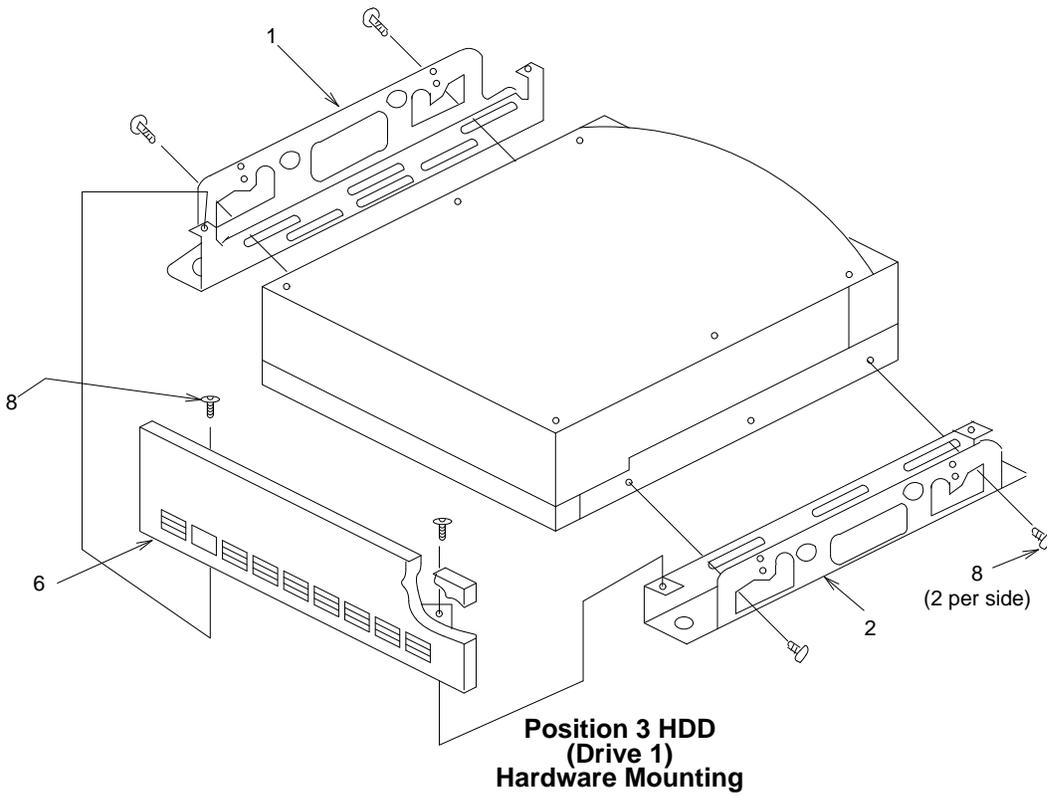
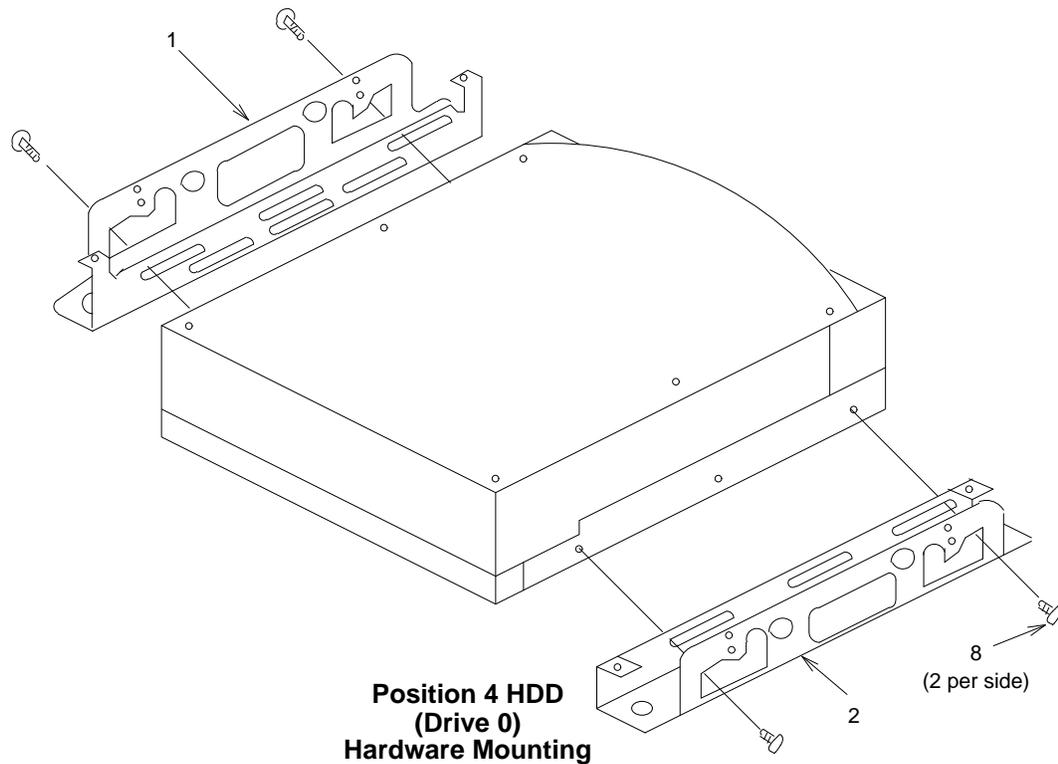

Figure 6-5. Position 3 Hard Disk Drive Mounting Kit
Figure 6-6. Position 4 Hard Disk Drive Mounting Kit
These screws are shown as Item 8 in Figure 6-5 and Figure 6-6.
8. Place the mounting rails parallel to each other with the smaller of the two flanges of the rails on the inside (Figure 6-5 and Figure 6-6).